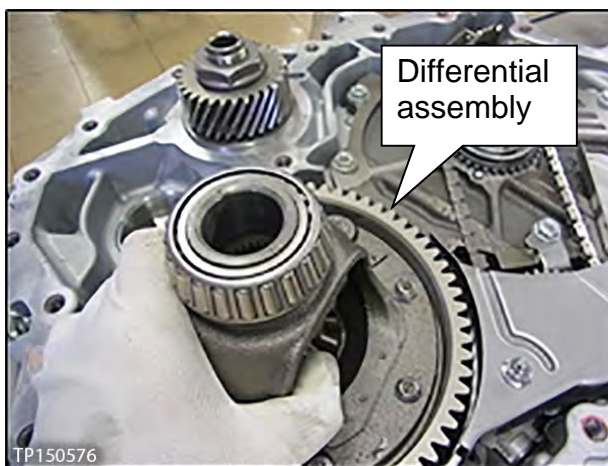

Figure 38
21. Carefully remove the differential assembly (Figure 38).